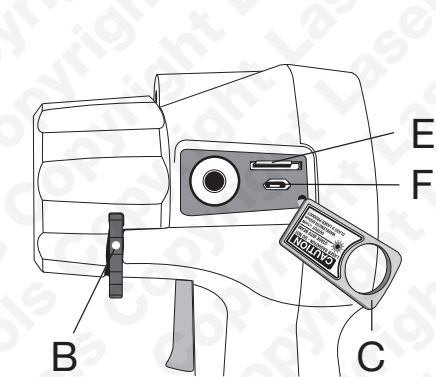

Fig. 2
View saved images. These are saved on the microSD card provided (**E** in Fig. 2). From menu, press toggle control **in** to view image. Toggle up or down to access further images. This function does not work if the microSD card is not present. Toggle right to return to normal scanning function. Note: the microSD card port can accept up to 32GB cards.
- Refer to Fig. 2: pull away the rubber port cover **C** from the top left-hand corner and swing it down. (Do not pull from the right-hand side as this can damage the cover.)
- Press the microSD card (**E** in Fig. 2) **in** against the spring pressure to eject it.
- Pull away the rubber port cover **C** from the top left-hand corner and swing it down. Plug the lead into the micro-USB port (**F** in Fig. 2), and connect the other end to a USB port on the PC or laptop.